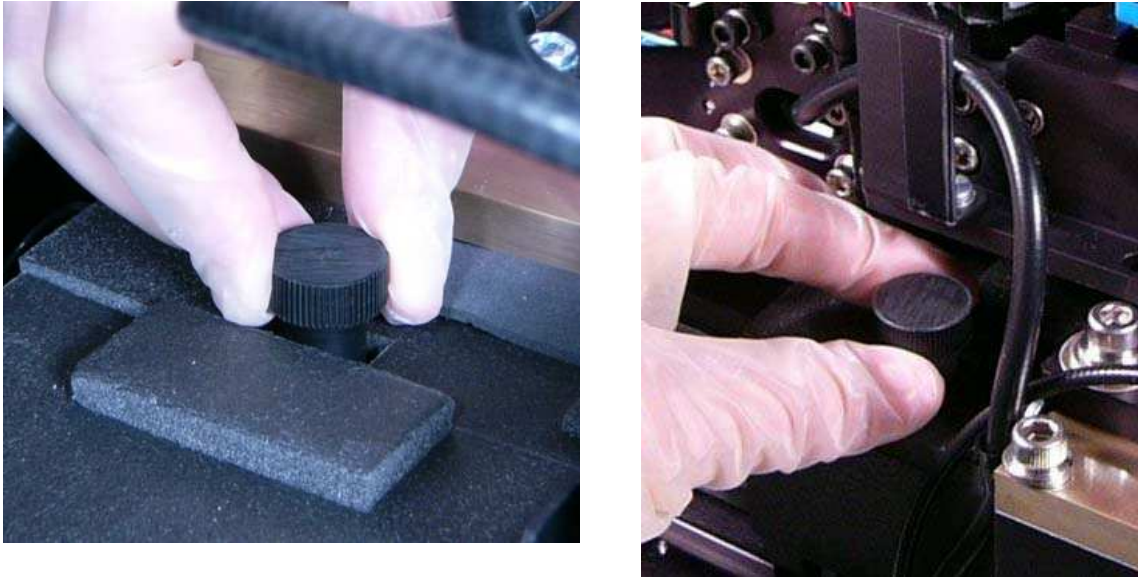

Figure 50: Removing the knobs that secure the incubator housing
- Secure the incubator housing with the three knobs (**Figure 50**).